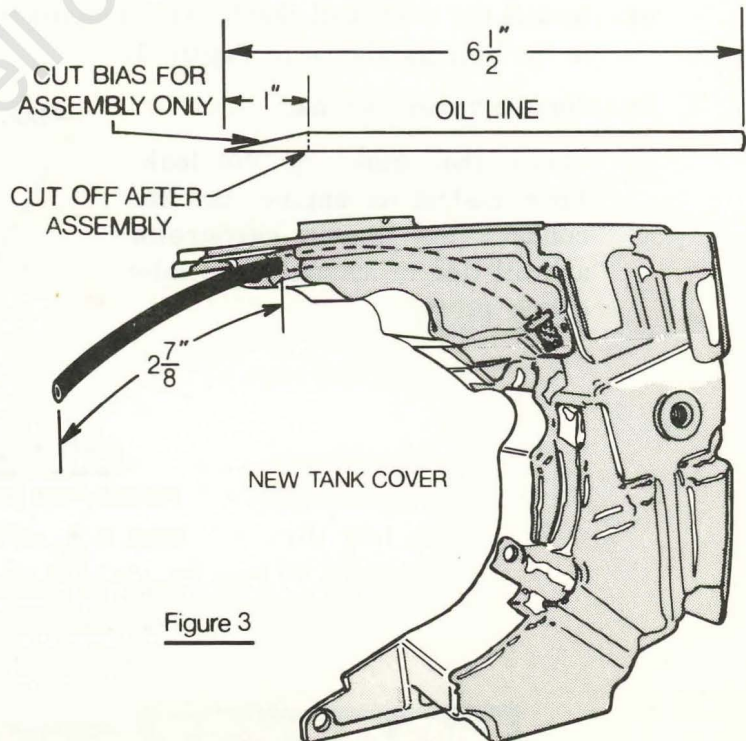

Figure 3
1. These Super EZ models from SN 42042785 have a separate pick-up and oil line in the existing oil tank cover. When installing the new cover assembly A-69832, install the pick-up A-65172 and oil line 69755 in the cover before securing the cover to the tank. The duck-bill check valve supplied with the new cover is not installed in this case, but can be saved as a replacement for the fuel cap check valve. Refer to Figure 3 for positioning of the oil line in the cover.